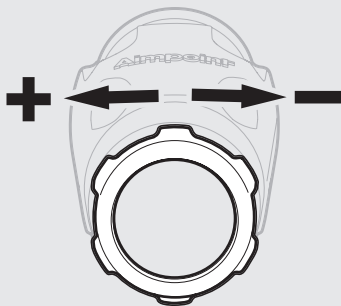

Fig. 6 Diopter setting
Adjust the diopter setting by rotating the diopter ring (2) as shown in Fig. 6.